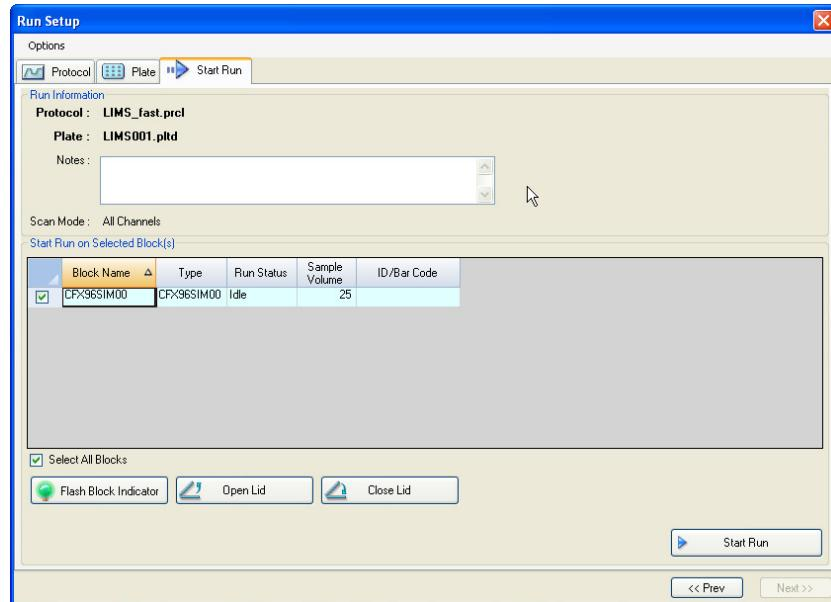

Figure 114. Run Setup window with a LIMS run ready to start.
2. To start the run for a selected LIMS file, select an instrument and click **Start Run** (Figure 114). The contents of the LIMS file and linked protocol file are used to complete the protocol and plate tabs.